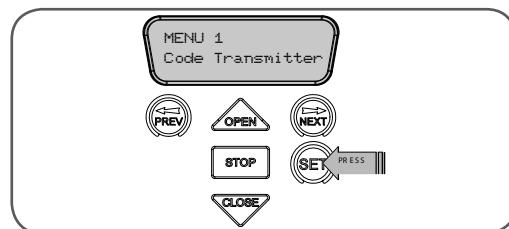

fig 30
1. Press NEXT to navigate to Menu 1 "Code Transmitter" (Fig. 30).